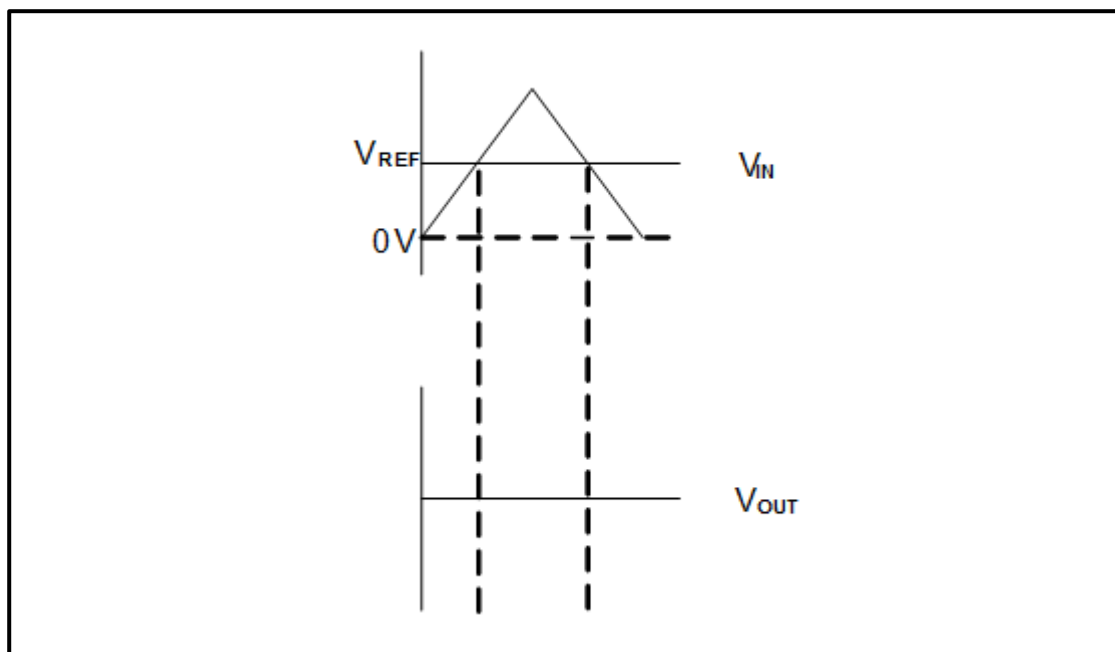

FIGURE 7.6: INPUT SIGNAL TO AN INVERTING COMPARATOR
- 7.6 FIGURE 7.6 below shows the input signal to an inverting comparator. The reference voltage is greater than zero. Draw the input signal and directly below that, on the same y-axis, draw the output signal. Label your answer.